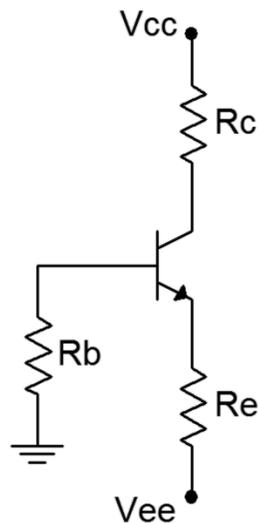

Figure 1
11. Consider the circuit of Figure 1 using  $V_{cc} = 15$  volts,  $V_{ee} = -12$  volts,  $R_b = 33$  k $\Omega$ ,  $R_e = 22$  k $\Omega$  and  $R_c = 15$  k $\Omega$ . Using the approximation of a negligible base voltage, determine the ideal end points of the DC load line and the Q point, and record these in Table 1.
13. Build the circuit of Figure 1 using  $V_{cc} = 15$  volts,  $V_{ee} = -12$  volts,  $R_b = 33$  k $\Omega$ ,  $R_e = 22$  k $\Omega$  and  $R_c = 15$  k $\Omega$ . Measure the base, emitter and collector voltages and record them in the first row of Table 2 (Experimental). Compute the deviations between theoretical and experimental and record these in the first row of Table 2 (% Deviation).
19. Build the circuit of Figure 1 in a simulator. Run a DC simulation and record the resulting transistor voltages in Table 6.